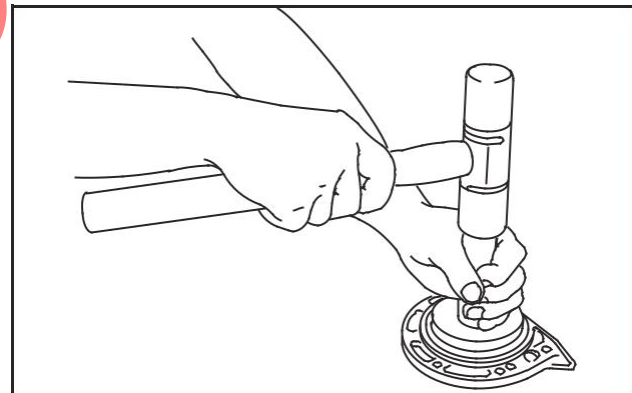

Fig. 5 – Installing Oil Seal
- a. Using seal driver, Tool #19424 install new oil seal, Fig. 5.